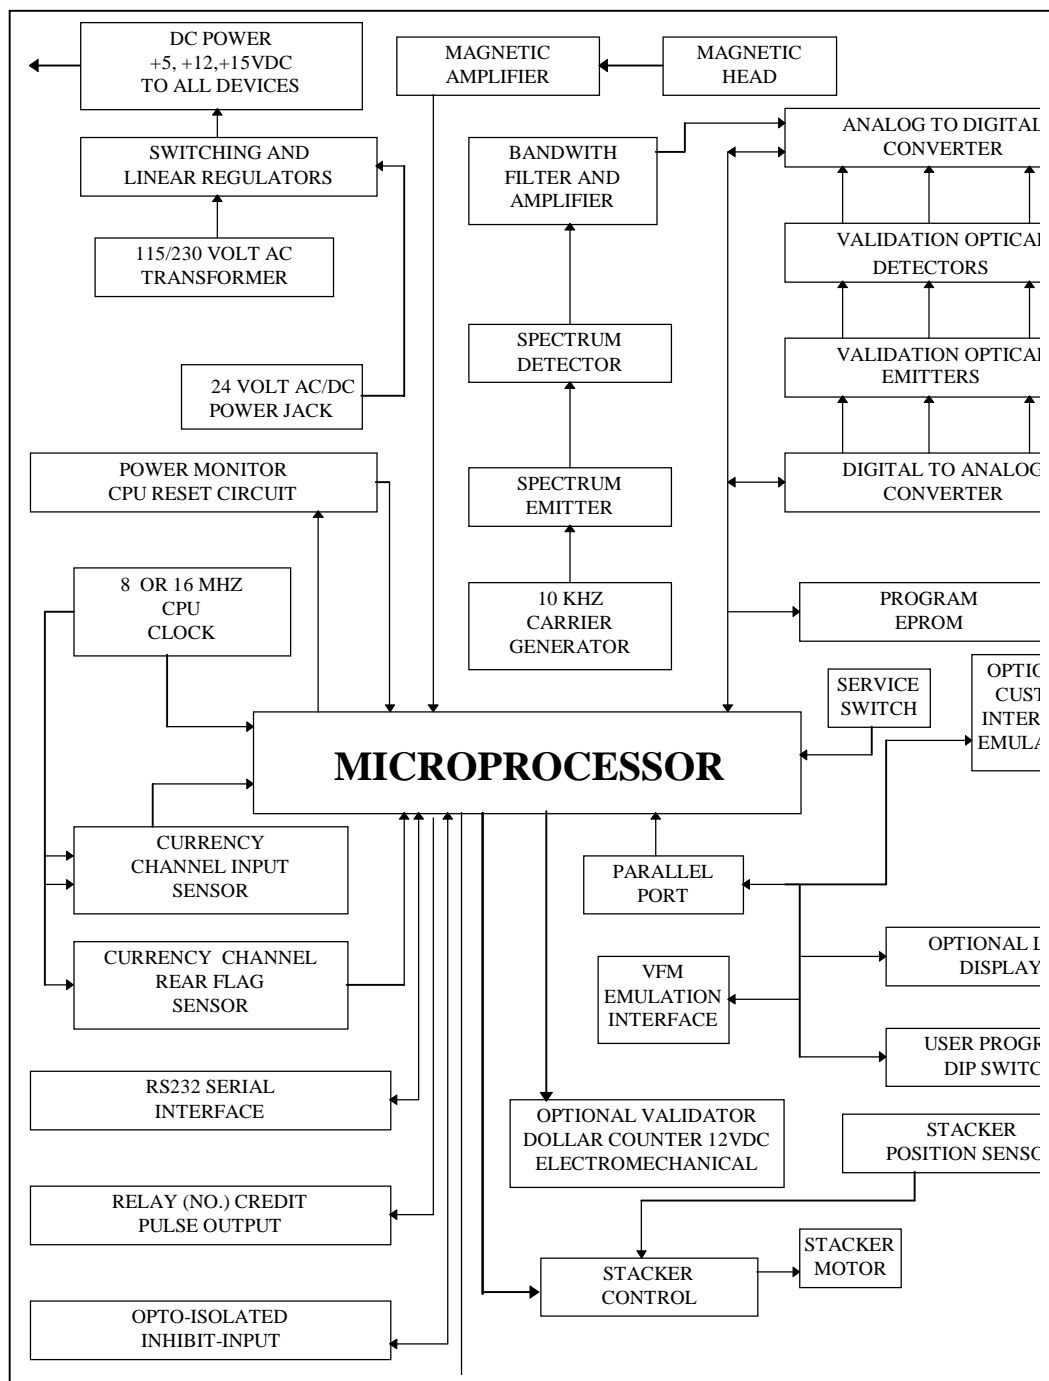

Figure 5 Block Diagram
The functional block diagram shown in Figure 5 depicts the blocks that comprise the M-150 currency validator. The Model M-150 consists of five (5) subassemblies which include the listed elements of the block diagram.